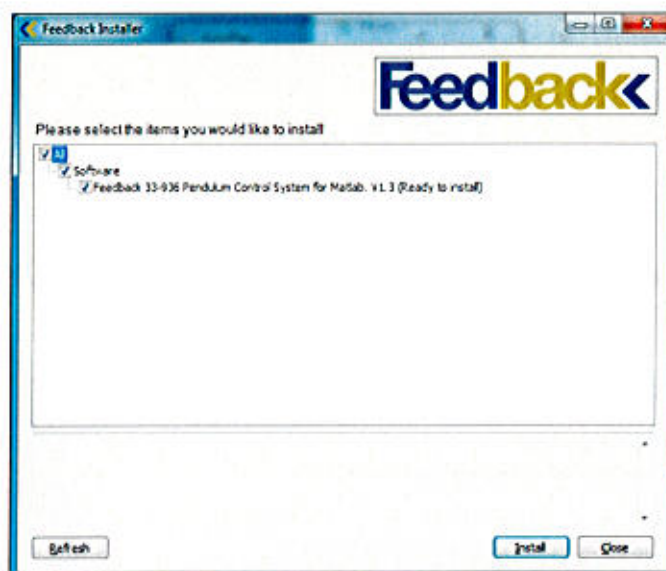

Figure 19 Program Installation Manager window
3. After launching the setup program, the program installation manager dialog will appear on the screen (Figure 19).